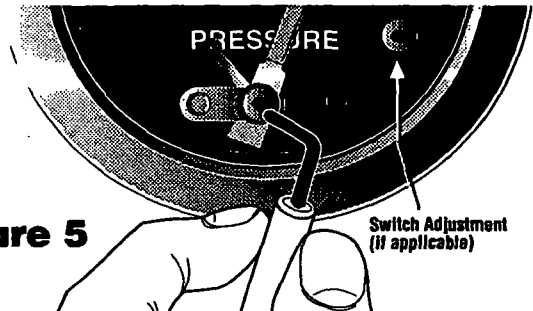

Figure 5
1. All contacts are set using a 1/16 in. hex wrench (Figure 5).
1. With equipment running; use a 1/16 in. hex wrench to rotate contact until it touches the pointer. Do NOT force contact against the gage pointer. Equipment should shut down and/or alarm should operate. Reset the contact (See Figure 5).